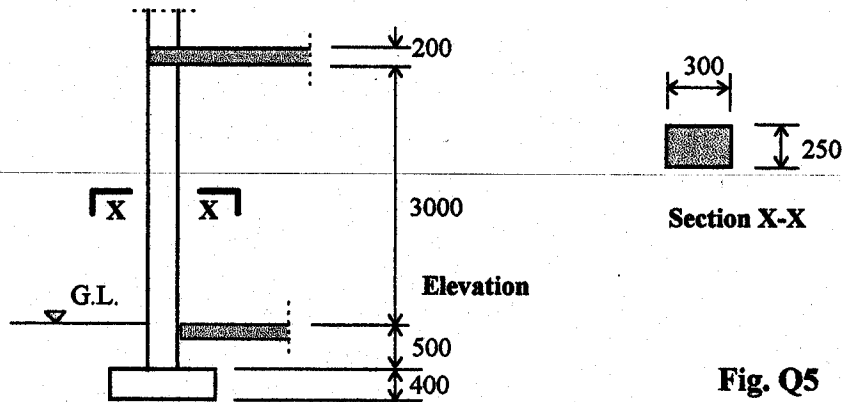

Fig. Q5
5. The braced column shown in Fig. Q5 is 225 x 300 in cross section. The r.c. floors which it supports are 200 thick flat slabs. The column is required to support ultimate loading as follows, between foundation and first floor level: